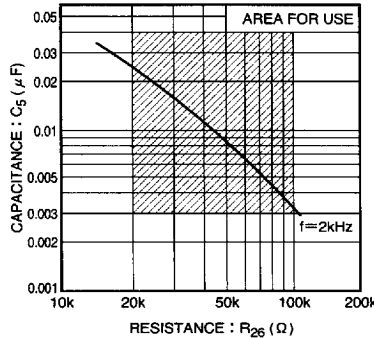

Fig. 7 Value of external components for oscillator (VCC = 5.0V)
- 3) The external resistor R26 connected to the oscillator (pin 28) should be in the range of 20kΩ and 100kΩ. If it is outside this range, oscillation may stop due to the influence of temperature (see Fig. 7).